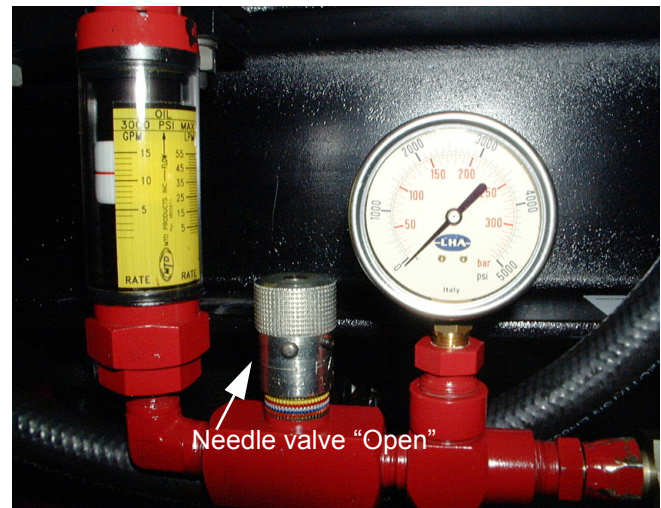

Figure 1
1. Make certain the needle valve is fully open.____ See Figure 1.